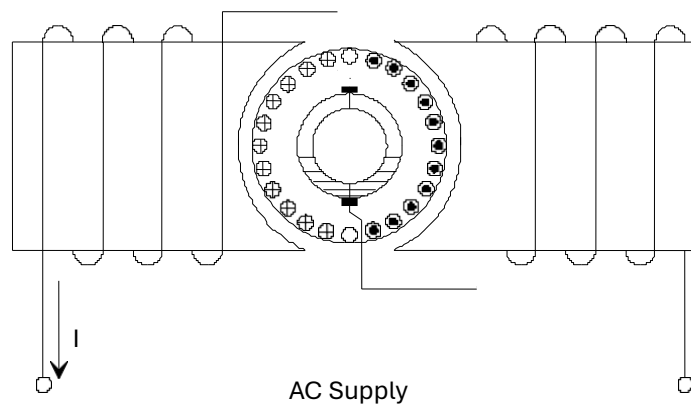

Figure 2.
2. For the current directions given in the series universal motor of Figure 2 determine and show:-